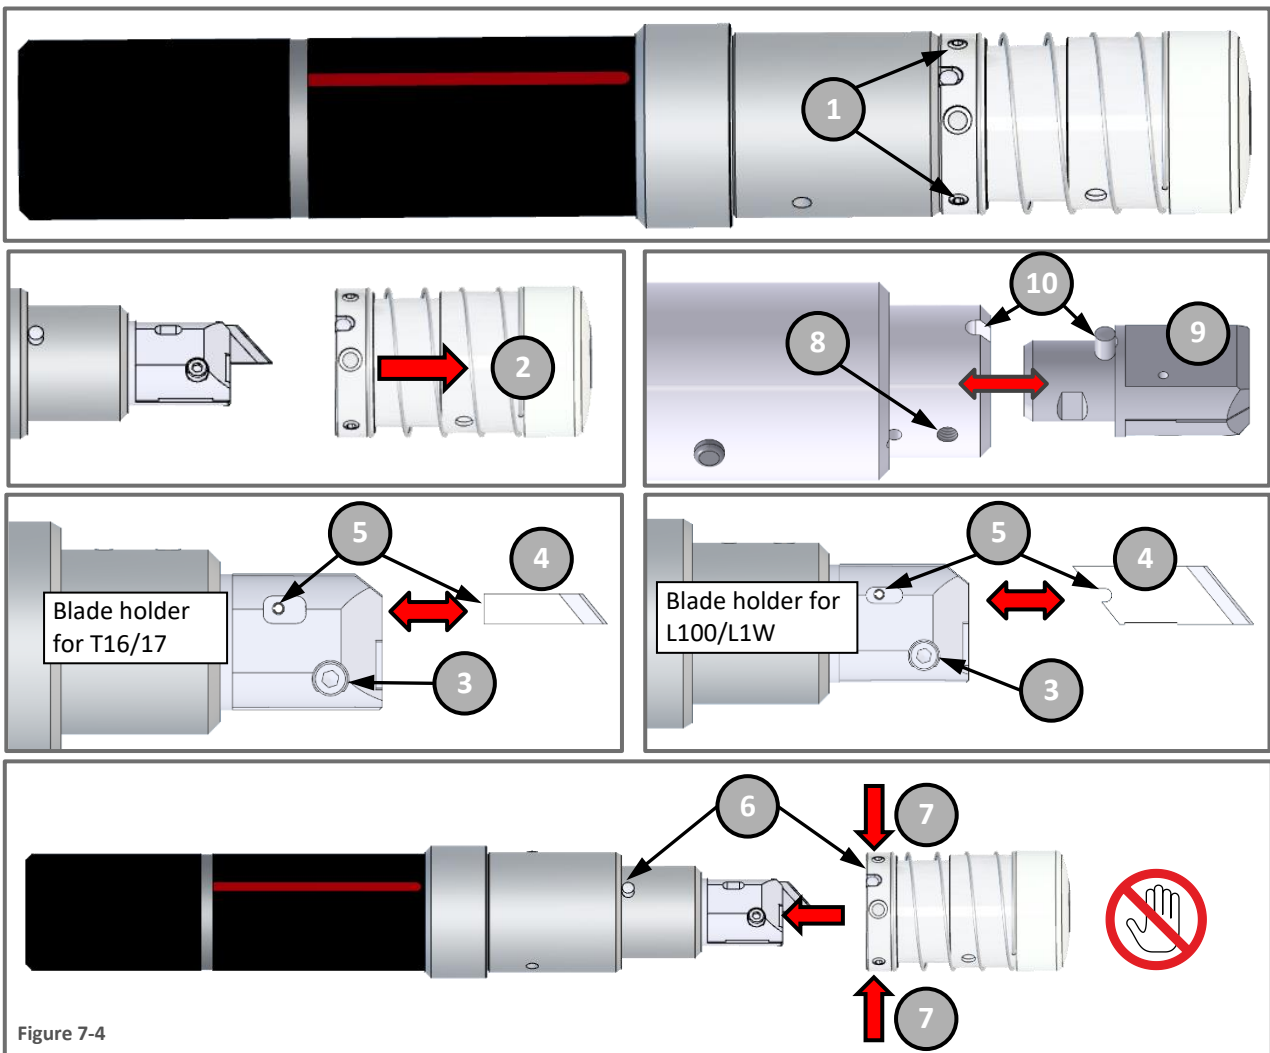

Figure 7-4
a) Loosen the locking set screws (1) and remove the movable blade guard (2) Figure 7-4.